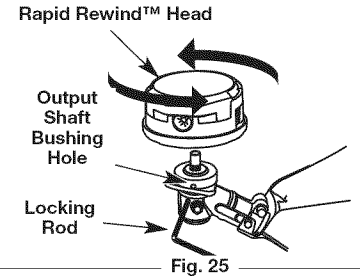
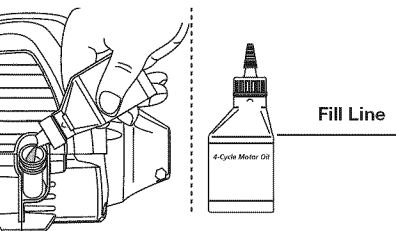

Fig. 25
Fig. 32
1. Align the output shaft bushing hole with the locking rod slot and insert the locking rod into the shaft bushing hole (Fig. 25).
3. Screw the cutting head counterclockwise onto the output shaft. Tighten securely. (Fig. 25) Remove the locking rod.
**NOTE:** Use the bottle and spout saved from initial use to measure the correct amount of oil. The top of the label on the bottle measures approximately 3.04 ounces (90 ml) (Fig. 32). Check the level (Fig. 25). If the level is low, add a small amount of oil and recheck. Do not overfill.